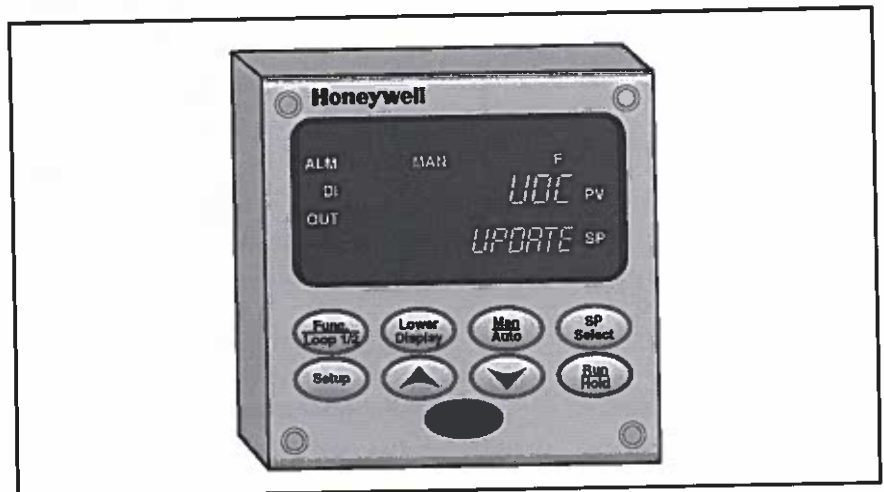

Figure 38. Honeywell UDC 3500 Controller Factory Reset Initialized
**Step 2: Initiate the Restoration during Power Up Sequence** – Simultaneously pressing the Func Loop 1/2 and ▲ keys while TEST DONE appears on the display places the controller in the restoration mode. The upper display should show UDC and the lower display should show UPDATE, as figure 38 shows.